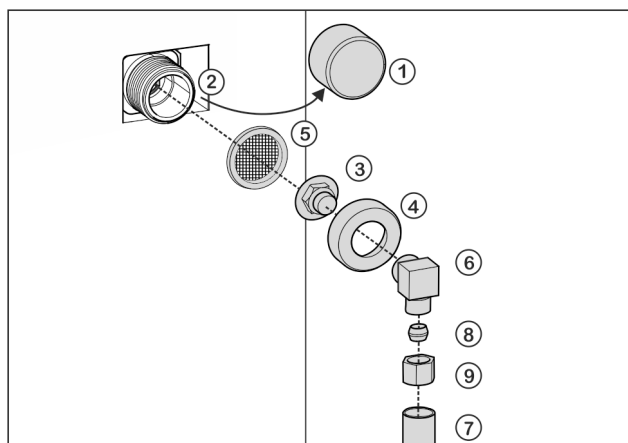

Fig. 19
- ▶ Remove cap Fig. 19 (1) from solenoid valve Fig. 19 (2).
- ▶ Insert coupler *Fig. 19 (3)* into union nut *Fig. 19 (4)*.
- ▶ Insert the filter *Fig. 19 (5)* with the recess pointing down towards the coupler *Fig. 19 (3)*.
- ▶ Screw the union nut *Fig. 19 (4)* by hand onto the thread of the solenoid valve *Fig. 19 (2)* until it is firmly in place.
- ▶ Screw on angle piece *Fig. 19 (6)*.
- ▶ Connect the water pipe *Fig. 19 (7)* (e. g. 1/4" OD copper pipe) with the clamp ring *Fig. 19 (8)* and nut *Fig. 19 (9)* to the elbow connector *Fig. 19 (6)*.
- ▶ If necessary: Fasten the water pipe *Fig. 19 (7)* to the housing with the guide clip.
- ▶ Put angle piece *Fig. 19 (6)* to one side.
- ▶ Connect the water pipe *Fig. 19 (7)* (e. g. 1/4" OD copper pipe) with the clamp ring *Fig. 19 (8)* and nut *Fig. 19 (9)* to the coupler *Fig. 19 (3)*.